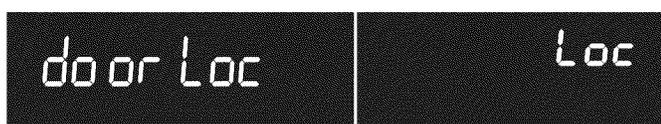

Figure 14: Display showing door locking and in locked position
2. Press and hold **STOP** for 3 seconds. **door Loc** will appear in the display. (Figure 14)The motor driven door latch mechanism will begin locking the oven door automatically. Do not open the oven door. Allow about 15 seconds for the oven door to completely lock. Once door is locked, **Loc** will appear in the display.